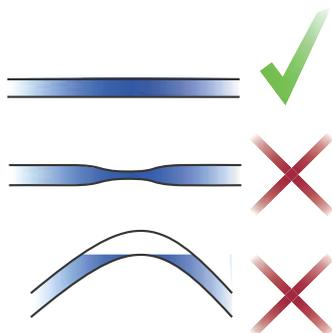

Fig. 4 Unrestricted pipe
- Unrestrictive pipes, 22 mm. See fig. 4.
- Provision to prevent air locks. See fig. 4.